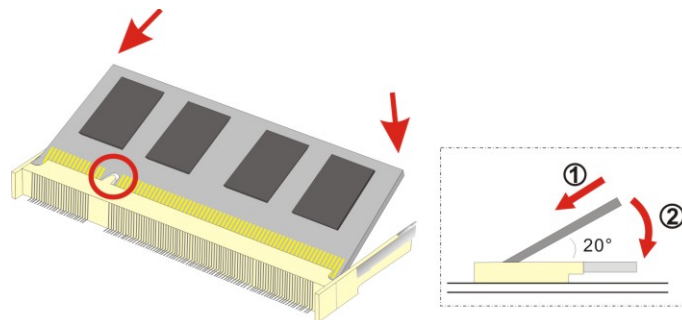

Figure 4-1: SO-DIMM Installation
To install a SO-DIMM into a SO-DIMM socket, please follow the steps below and refer to **Figure 4-1**.
- Step 3:** **Insert the SO-DIMM.** Push the SO-DIMM chip into the socket at an angle. (See **Figure 4-1**)
- Step 4:** **Seat the SO-DIMM.** Gently push downwards and the arms clip into place. (See **Figure 4-1**)